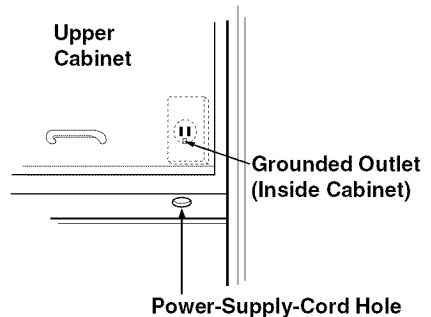

Figure 4 Detail
1. Locate the grounded electric outlet for this oven in the cabinet above the oven, as shown in **Figure 4 Detail**.
2. You will cut the power-supply-cord hole (shown in **Figure 4 Detail**) later when you prepare the wall and upper cabinet in Step 4.